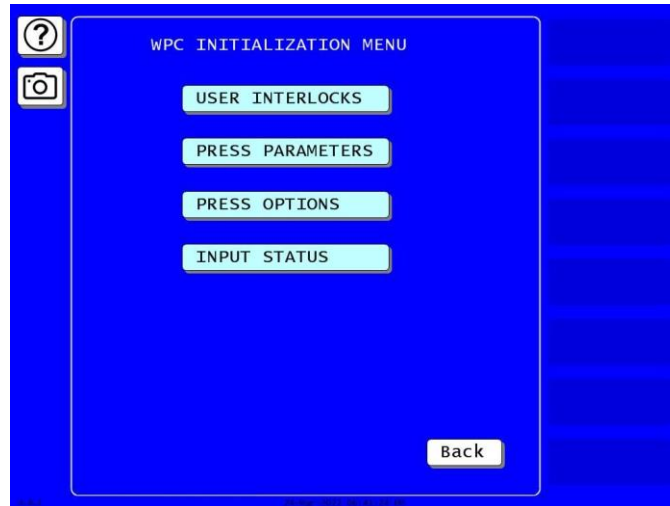

Figure 3-5. WPC Initialization Menu
1. On the WPC Initialization Menu (see Figure 3-5, above), press INPUT STATUS. The Display WPC Input Status screen displays, Figure 3-6.